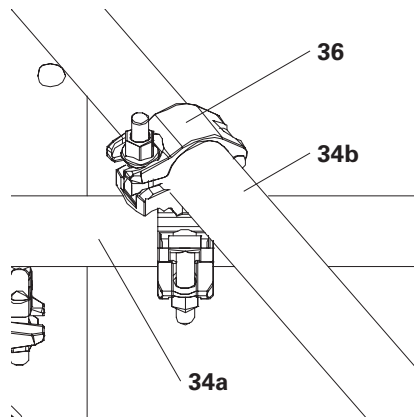
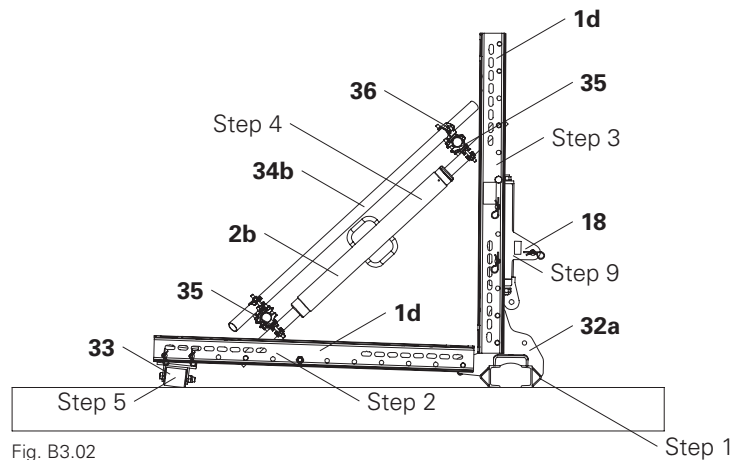

Fig. B3.03a
Fig. B3.02
2. Bolt the Steel Waler SRU U120 (1d) vertically onto the Rail 100 VARIOKIT (32a) using 2x fitting pins Ø 21 mm (26). (Fig. B3.02)
3. Bolt the Steel Waler SRU U120 (1d) horizontally onto the Rail 100 VARIOKIT (32a) using 1x fitting pin Ø 21 mm (26).
4. Install the Heavy-Duty Spindle SLS (2b) using 2x fitting pins Ø 21 mm (26).
5. Install the Pressure Roller VARIOKIT (33) using 2x fitting pins Ø 21 mm (26).
6. Fit horizontal steel scaffolding tubes (34a) using Standard Couplers RA 48/48 (35) on the threads of the Heavy-Duty Spindles SLS 100/180 (2b) (top and bottom).
7. Attach diagonal steel scaffolding tube (34b) to the horizontal steel scaffolding tubes (34a) with swivel coupling AF 48/48 (36). (Fig. B3.03a)